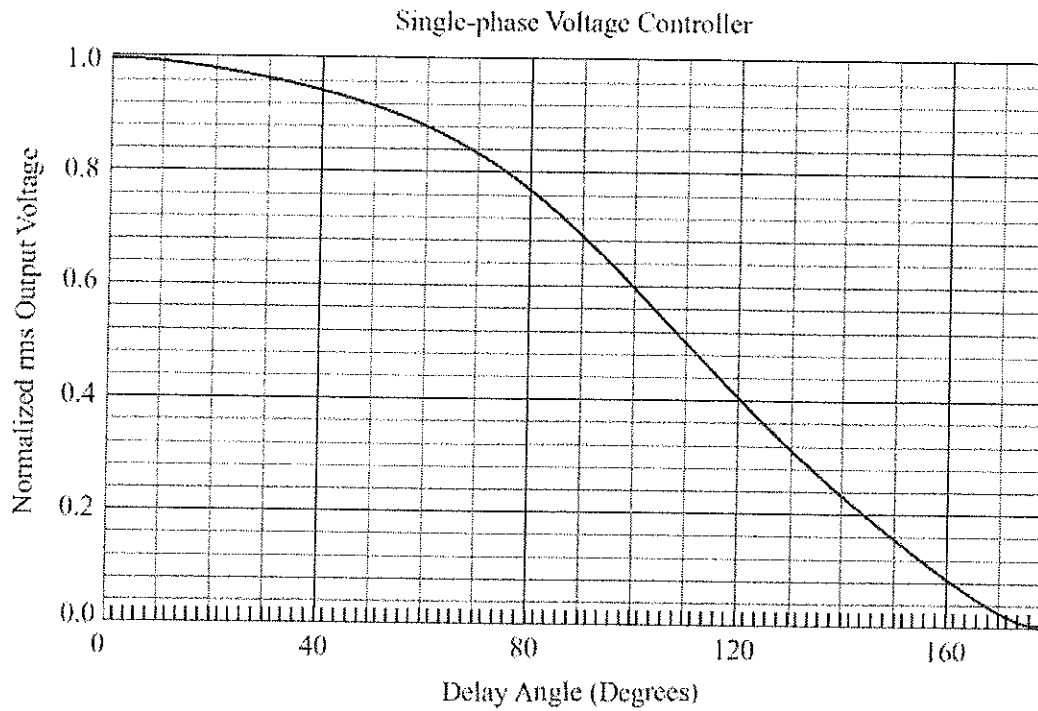

Figure 3: Normalised Delay Angle Amplitude Curve
1. The Delay angle of the controller to deliver 600 W power to the Load. (Use the normalized amplitude curve shown in figure 3 at the end of this question) [6 marks]